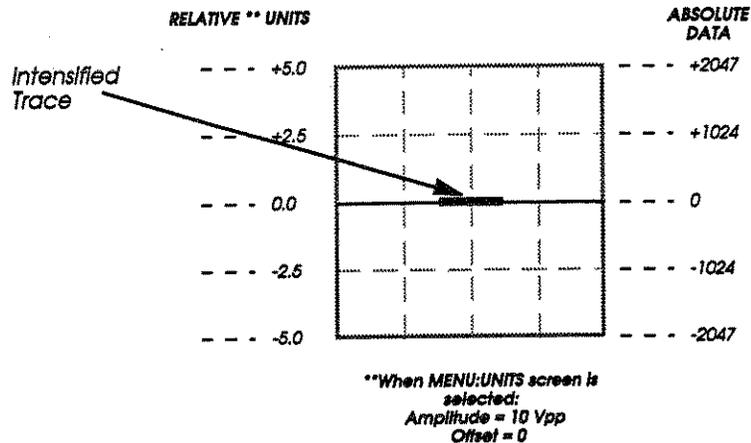

Figure 3-28. Correct Z-Axis Settings
- Select the proper polarity for your scope. Move the "Slider" up or down for the best intensity of the block; see figure 3-28.